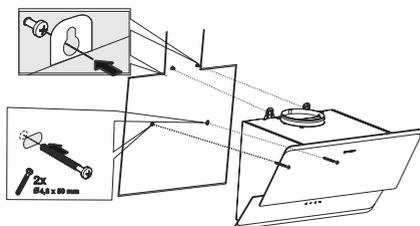

Fig. 12
1. ▶ Hold the appliance by its body and place it on the suspension screws on the wall and tighten the screws (Fig. 12).
2. ▶ Fix the appliance with 4.8x50 screws through the mounting hole on the interior of the appliance (Fig. 12).